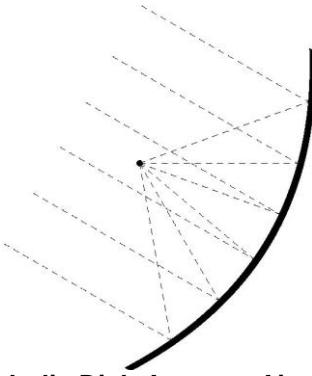

Figure 1. Parabolic Dish Antenna Aimed at Satellite
- 1 A 30 inch conventional dish at 10 GHz, with measured gain of 36.4 dBi and efficiency of 64%. The estimated spillover efficiency is 87% for a 10 dB illumination taper. With the dish pointing at a high elevation as shown in Figure 1, perhaps half of the spillover is illuminating earth at 290 K, which adds an estimated 19 K to the 6 K of sky noise, for a total of 25 K. In a 500 Hz bandwidth, the noise output is -157.6 dBm.